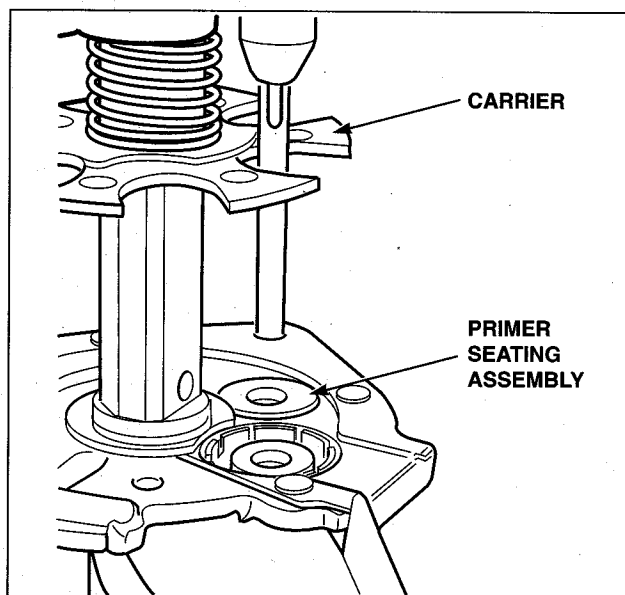

Figure 50
5. Enter a screwdriver under the carrier and raise the carrier alternating pressure from side to side until the carrier can be raised as in Figure 50.